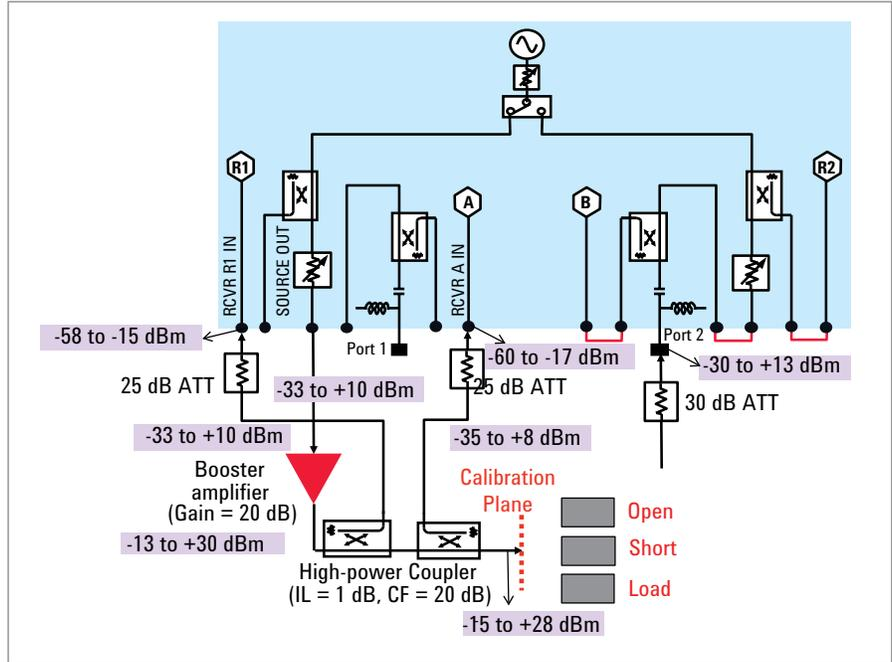

Figure 10. Connecting calibration standards (Open/Short/Load) for full 1-port calibration
- (2) Perform reflection measurement for full 1-port calibration using connected calibration standards (Figure 10)